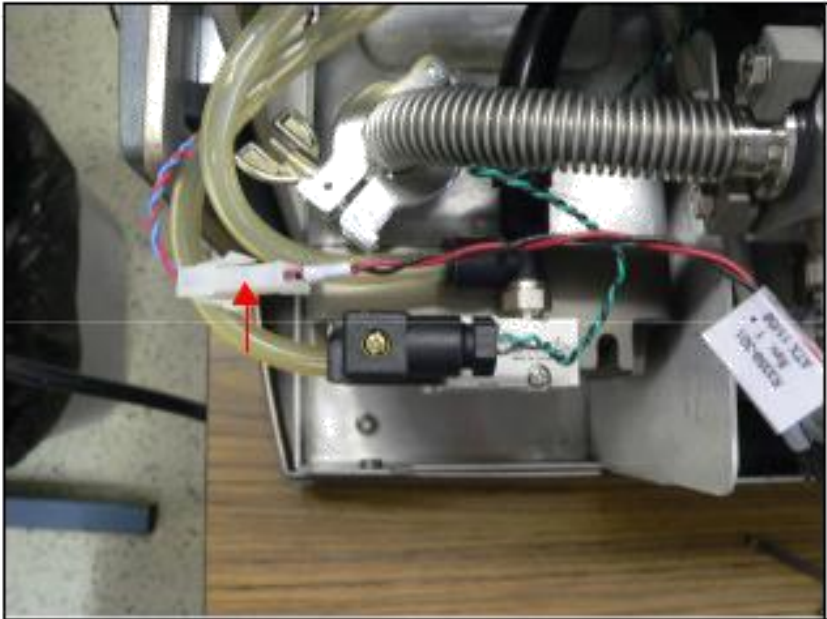

Figure 12: Molex Connector
4. Disconnect the R3359-301 Molex connector to the Clippard valve (Figure 12: Molex Connector).